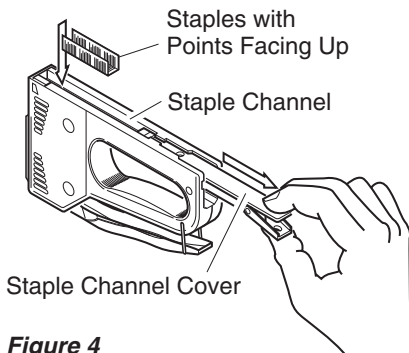

Figure 4
2. Turn staplegun upside down. At rear of tool, squeeze latch on end of staple channel (see Figure 4). Pull staple channel cover out of staple channel until it stops (see Figure 4).
3. Drop staples into staple channel. Make sure staple points are facing up (see Figure 4).